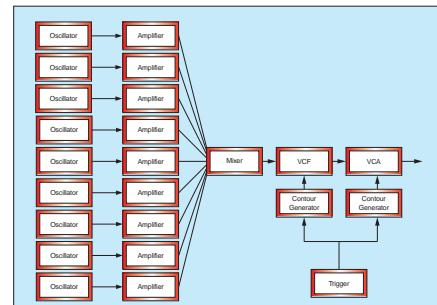
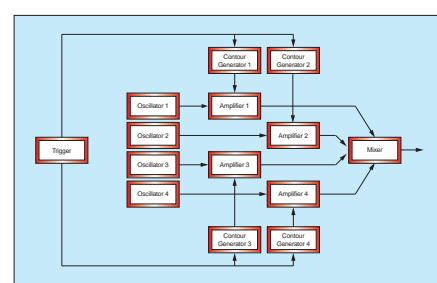

Figure 10: Adding filter and amplitude contours to our basic additive synthesizer.
Figure 11: A more complex and useful additive synthesizer.
more like a conventional synthesizer, albeit one with a more complex initial waveform than that produced by conventional oscillators. This then suggests how we can modify the 'instrument' in Figure 8 to design a more interesting additive synthesizer: simply add a time-varying filter and a time-varying amplifier after the output from the mixer (Figure 10).
► In Figure 10 to recreate these tonal changes more accurately. Firstly, we must assign the pitches of the oscillators to imitate the harmonic nature of the string. This is simple — it's the $1/n$ harmonic series discussed many times before. Secondly, we must consider how each of these harmonics changes in time. This is also simple: we know that the sound becomes duller as time passes, so the higher-frequency harmonics must decay more rapidly than the lower ones. Thirdly, we must determine how the overall brightness and loudness of the sound changes as the note progresses, and create filter and amplifier profiles that emulate this. But hang on a minute — if a sound can, at any instant, be determined by the relative pitches and amplitudes of its constituent harmonics, we have no need for these filters and amplifiers — the changes in the harmonics do all the work for us. This understanding then leads us to Figure 11, which is much closer to describing how a real additive synthesizer works.